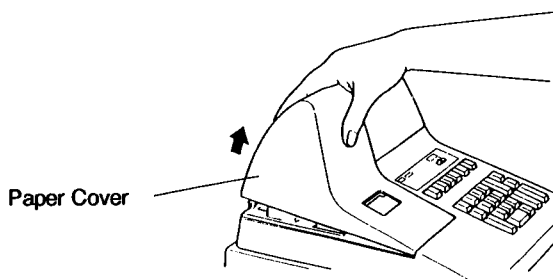

Fig. 1
1. Remove the Paper Cover. (Fig. 1)